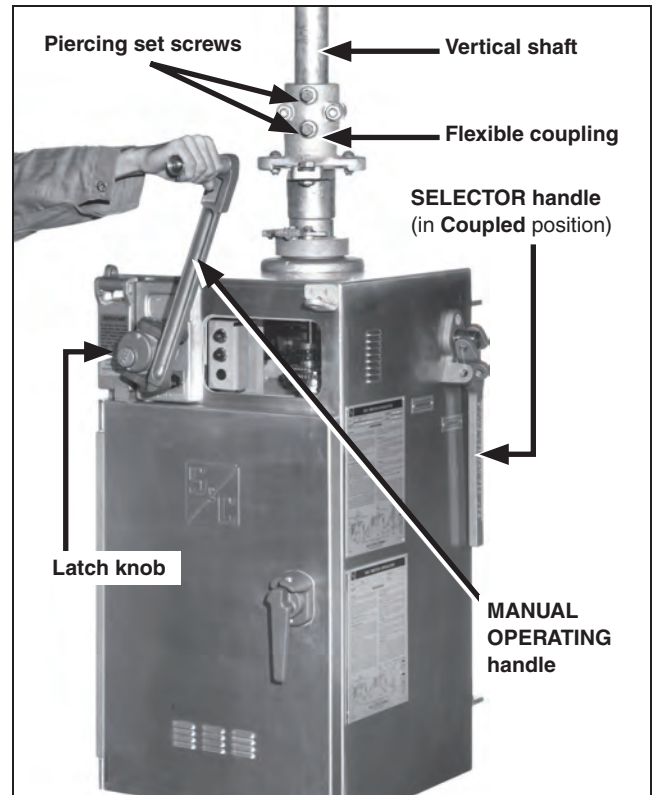

Figure 50. Manual operation.
- STEP 2.** Release the latch knob while continuing to pivot the handle forward to lock it into the **Cranking** position. See Figure 50. (As the handle is pivoted forward, the motor brake is mechanically released, both leads of the control source are automatically disconnected, and both the “opening” and “closing” motor contactors are mechanically blocked in the **Open** position.)